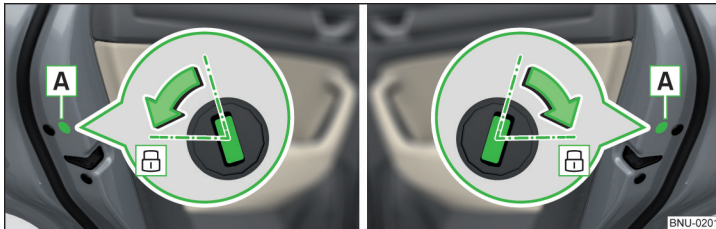

Fig. 284 Left door/right door
- › In vehicles with panel **A**, remove this panel » Fig. 284.